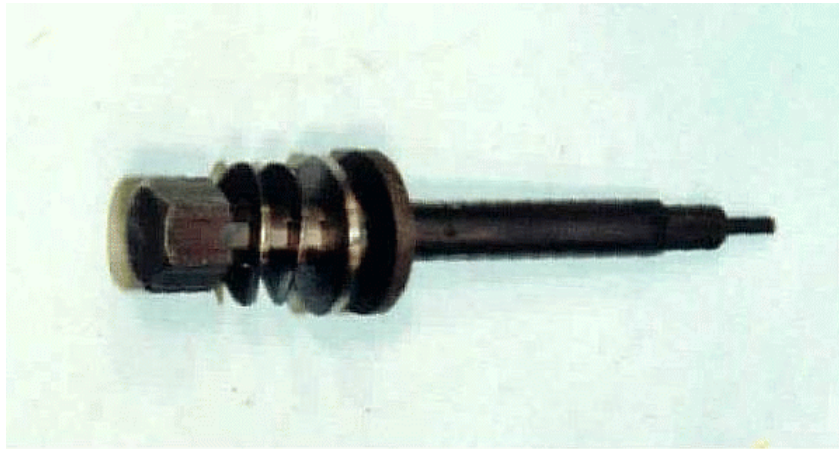

Figure 5.13- Occipital Condyle Bolt assembly
17. Prepare the Neck Occipital Condyle Bolt (T1NKM010) by placing hardware on the bolt in the following order: two Curved Disk Spring washers, a Neck Key Washer (T1NKM011), and a Friction Washer (T1NKM012) onto the Condyle bolt as shown in **Figure 5.13**.